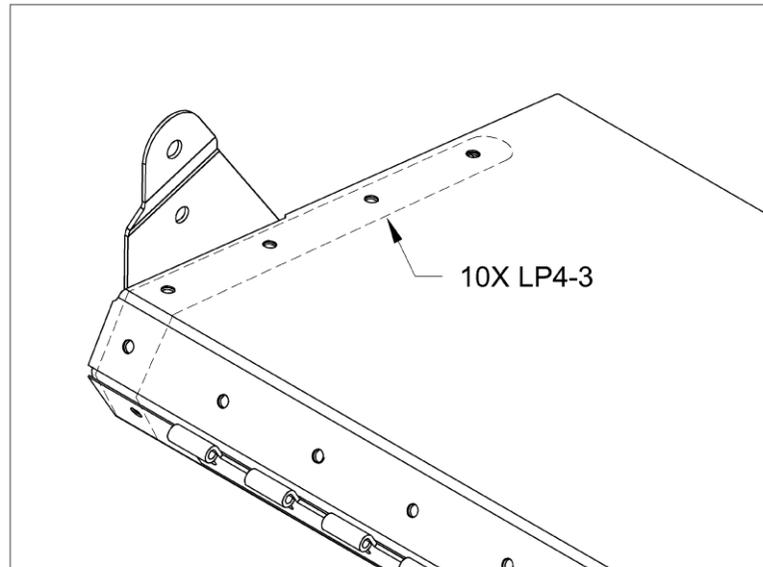

FIGURE 5: INSTALL INBD RIB
Step 11 (Rib Replacement Only): Rivet the Horn Assembly into the AST using the rivets called out in Figure 5. Skip to Step 23.